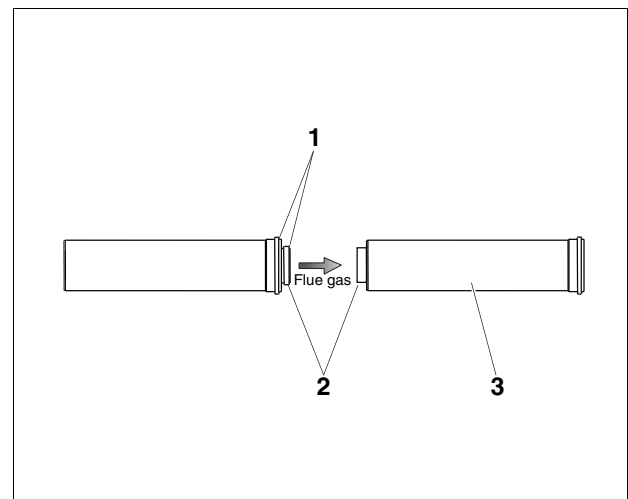

Fig. 5 Installing the pipe connections
- Coat the gaskets (Fig. 5, **Item 1**) with CENTROCERIN[®] anti-seizing compound.
- Push the flue gas pipes into one another (Fig. 5, **Item 2**) with a slight turning motion until the stop.
With concentric pipes, push the air intake pipe (outer pipe, Fig. 5, **Item 3**) again.